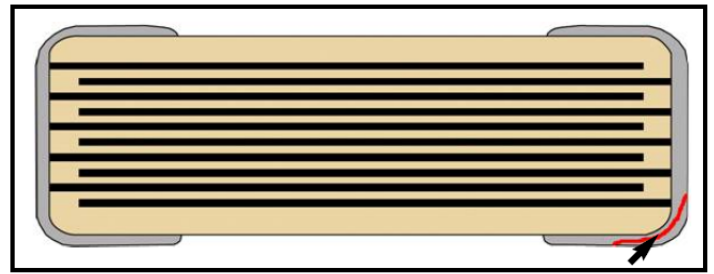

Figure 9 –Flexible termination moves flex cracks to the end termination, away from the ceramic body.
- Finally, for **high** capacitance values (also called HiCV in the industry), KEMET offers the Flexible Termination (FT-CAP). KEMET applies a special conductive silver epoxy on both end terminations, between the copper/electrode interface and the nickel/tin plating. This special epoxy layer is essentially a tearaway solution, providing a path of least resistance for board flex stress. This solution acts to steer the potential flex crack away from the ceramic body, into the more benign area of the termination (See Figure 9). Technically, Flexible Termination can be applied to any commercial SMD (Surface Mount) product, but due to additional manufacturing costs (primarily materials and labor), the Flexible Termination is more cost effective when used on HiCV devices. KEMET’s Flexible Termination offers up to 5mm of board bend stress capability. To order this device, place an X for “Flexible Termination” in the 6th digit of the KEMET part number.